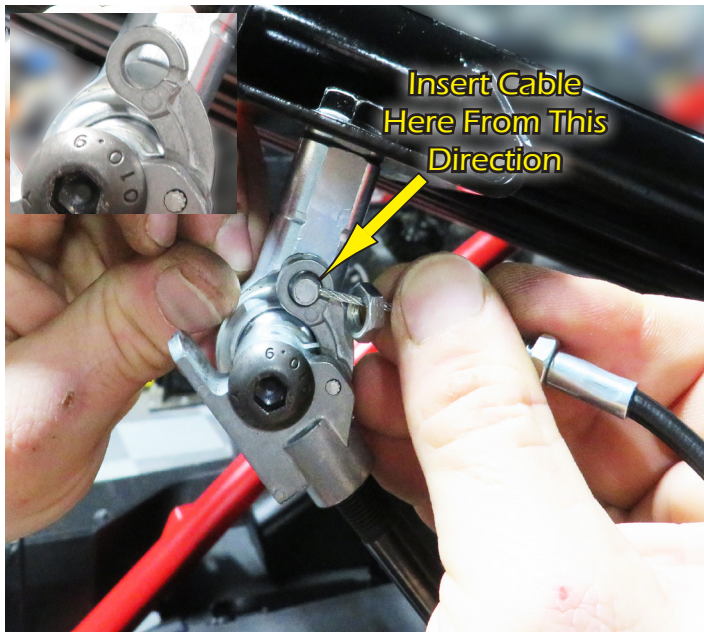
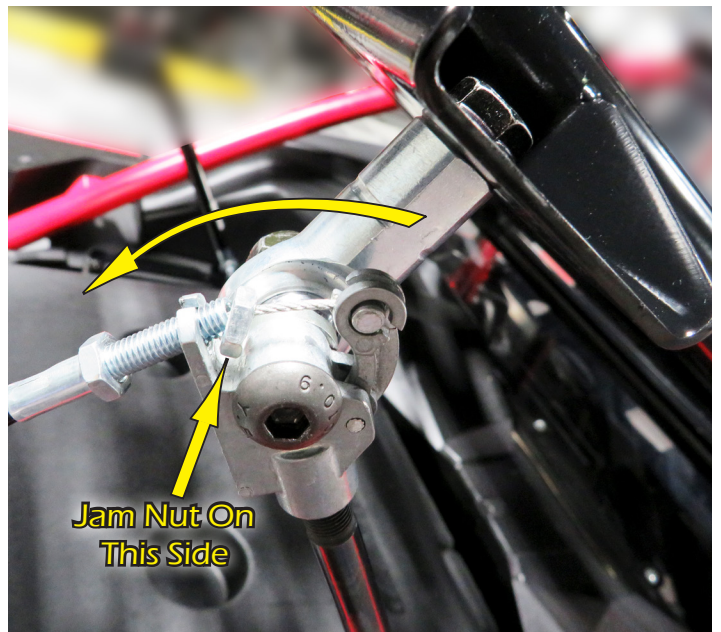

FIG.21A
FIG.21B
21. Now you're ready to install the Release Cable. First you will insert the bead end into the clevis retainer as shown in **Fig.21a** and from the direction shown as to allow the cable to enter the slot. Then pull the cable up and towards the back so that the clevis fully retains the cable bead as shown in **Fig.21b**.